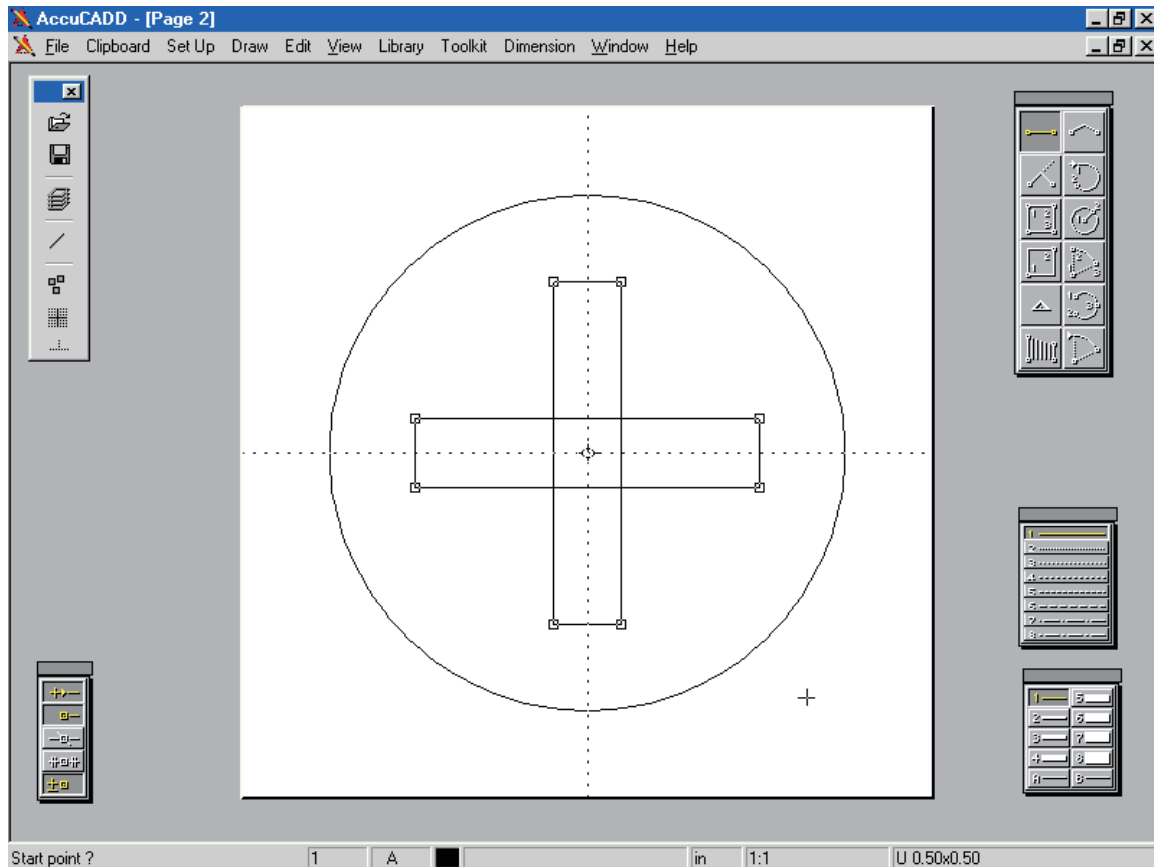

Figure 27: Drawing a screwhead
[] Select line mode, then touch the exact center of the circle to set datum (it's a snap point, and even if the Points display is off, you will be able to locate it). Key in F6 (we will use the word **Delta** to indicate the F6 key), then the coordinates of the first corner of the cross-shaped slot, Figure 27. Starting at top right, the coordinates are .05/2 (X), and .25/2 (Y); press F11 to shift the datum.
(In Figure 27, you'll see that the Points display is now at top left. All palettes can be freely positioned. Your preferred palette layout can become the system's "default" setting by selecting Save Setup from the Set Up menu.)